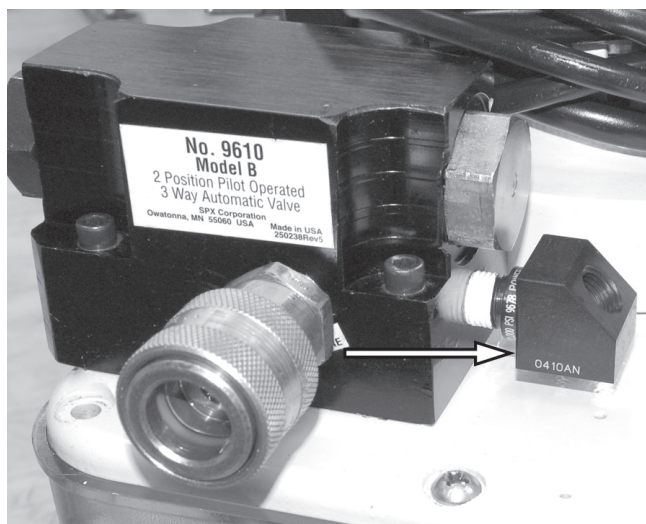

Figure 5. Elbow Installation
2. Refer to Figure 5. Install sealant tape or non hardening sealer to a 45 degree elbow (PN 9678). Install the elbow as shown.